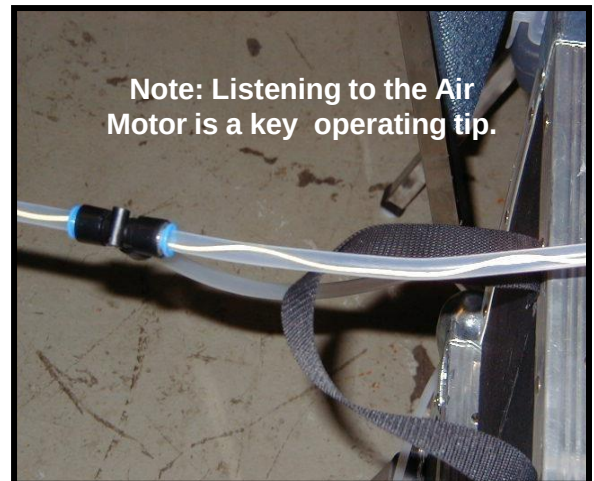

Figure 6
9.2.1 If Fiber Bundle begins to “wave and snake” inside 8mm Clear Tube, adjust Air Flow pressure to smooth out bundle performance. **See Fig. 6.**